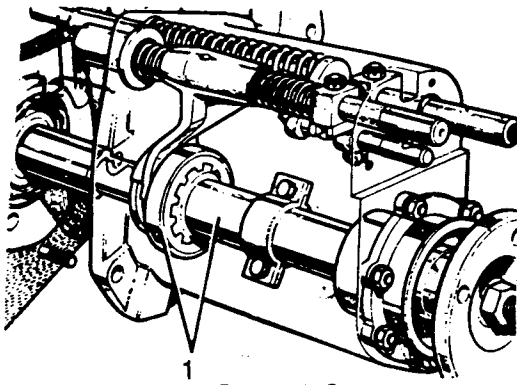

Fig H1.113
- (6) Refer to Fig H1.113. Without altering the alignment of the selector shaft assemblies, fit these in position in the front output shaft housing, fitting the four wheel drive dog (1) on the output shaft and selector fork.